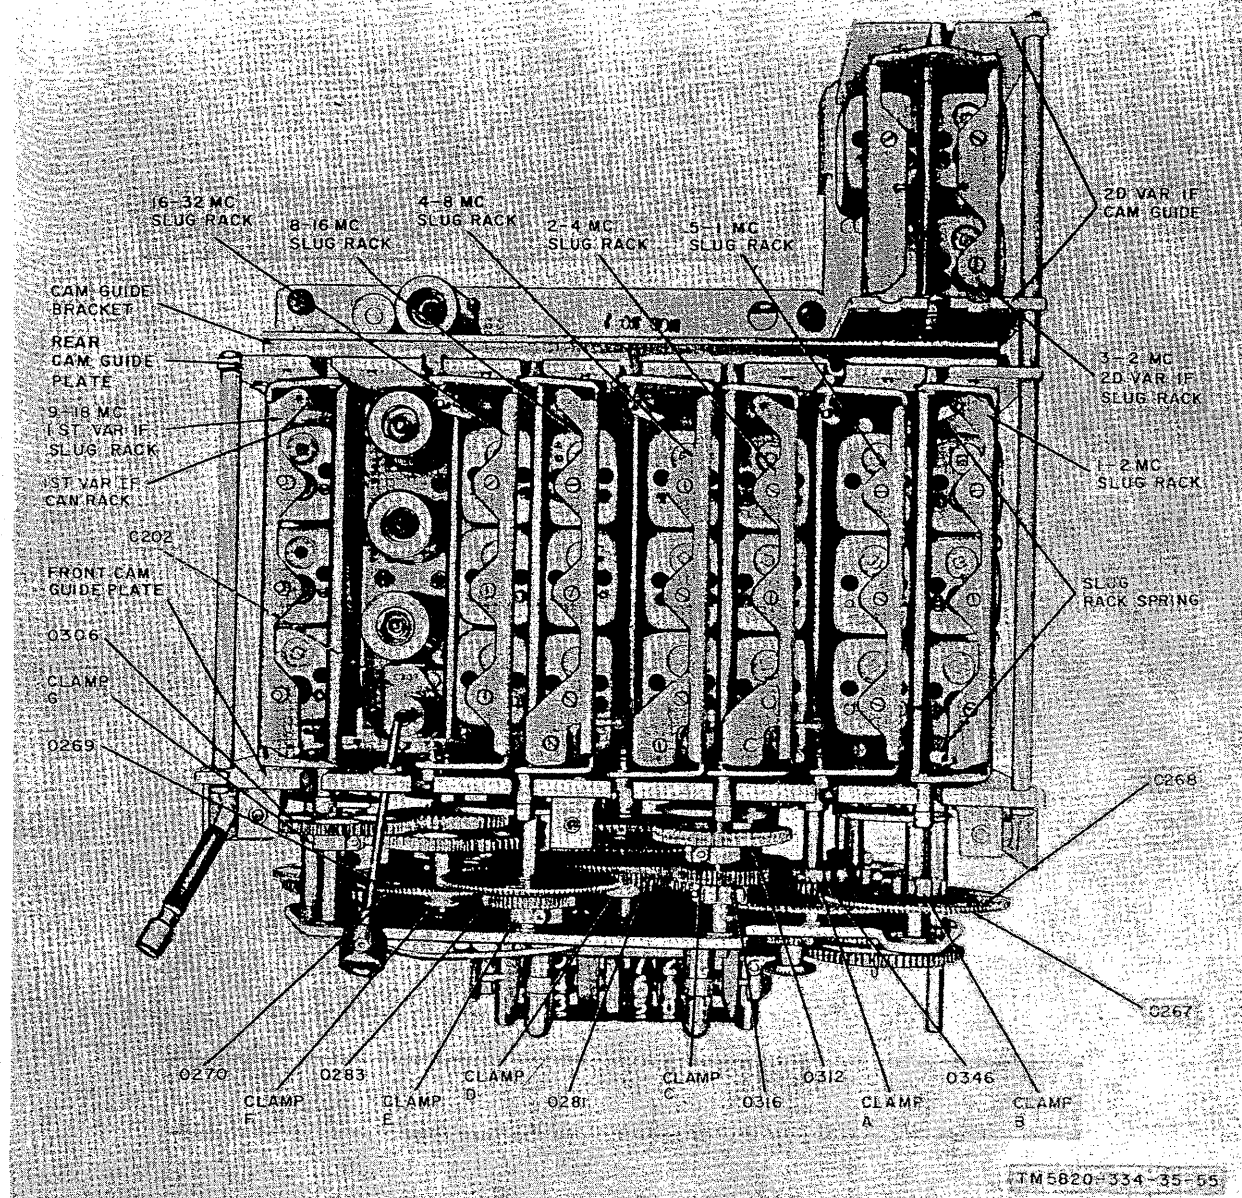
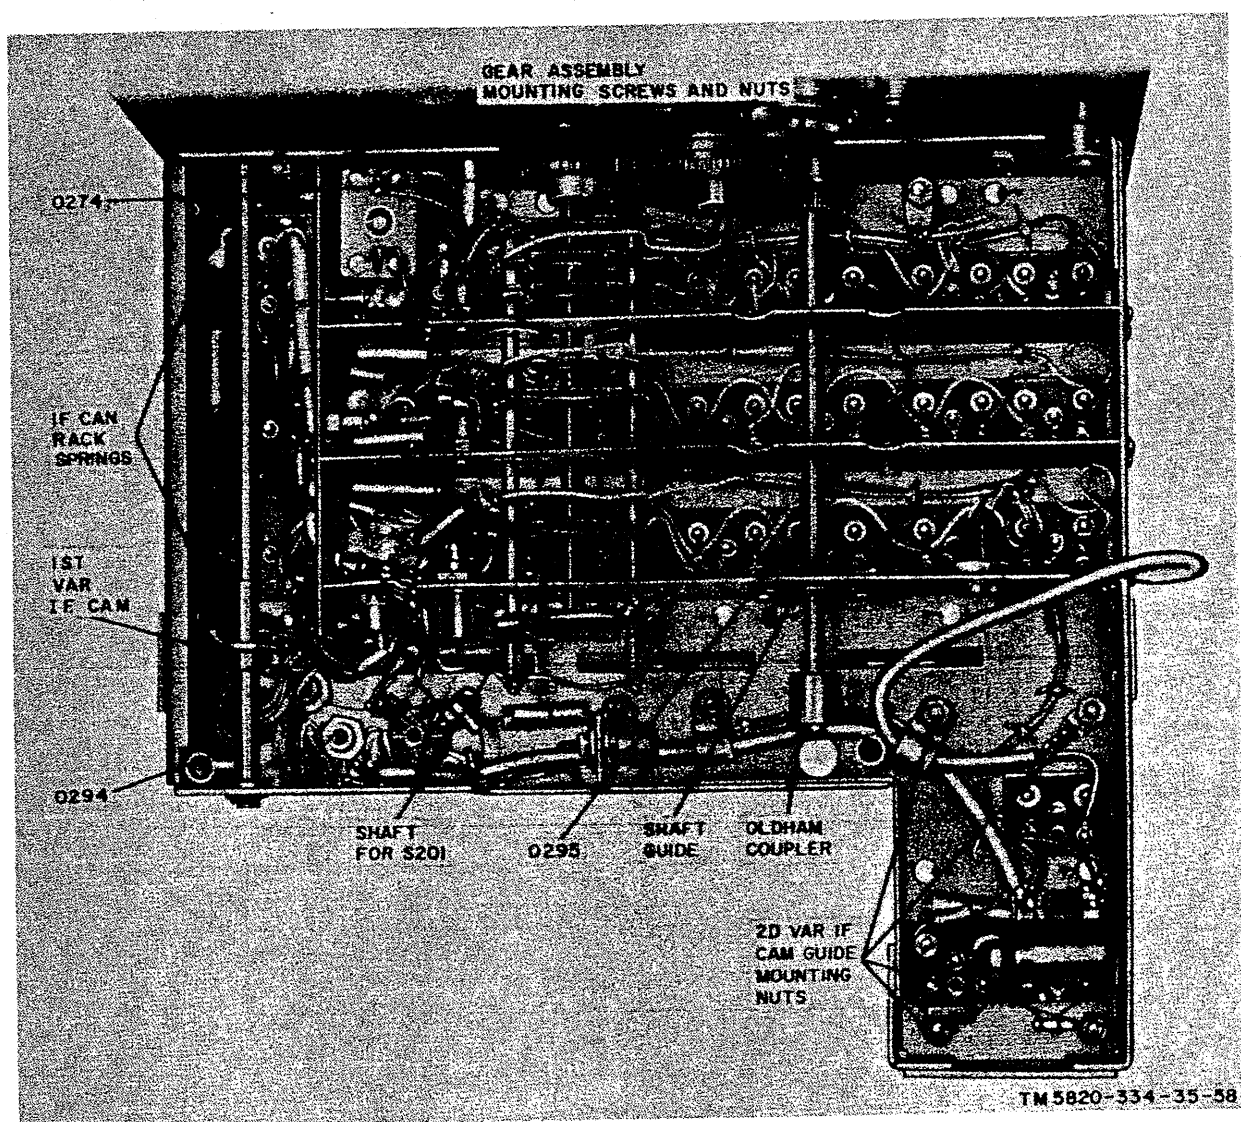

Figure 59. Gear train assembly and rf subchassis, top view.
Figure 60. Rf subchassis, bottom view.
(8) Remove the tubes from the subchassis.
(9) Loosen the clamp screw for gear 0274 (fig. 60).
(10) Slip the shaft for S201 out of the gear clamp. This can be done with long-nosed pliers (fig. 60).
(14) Loosen the Oldham coupler on shaft 0295 and remove it from the shaft (fig. 60).
(15) Remove the shaft guide from shaft 0295 (fig. 60).
(16) Remove the four second variable if. cam guide nuts (fig. 60).
(18) Remove the two gear assembly mounting screws and nuts (fig. 60).
(19) Remove the retaining ring at the rear of shaft 0294 (fig. 60) and slip the shaft out of the rear bearing.
(20) Carefully move the rf subchassis down and away from the gear train assembly as follows:
(b) Slip shaft 0295 through the holes in the shield plates in the bottom of the rf chassis (fig. 60).
(c) Work the cam on shaft 0294 through the oval hole in the front of the rf subchassis (fig. 60).
(a) Work the cam on shaft 0294 through the oval hole in the front of the rf chassis (fig. 60).
(b) Slip shaft 0295 through the holes in the shield plates in the rf subchassis (fig. 60).
(d) Slip shaft 0294 into the bearing at the rear of the chassis (fig. 60).
(2) Replace and tighten the two screws and nuts which secure the rf subchassis to the gear train assembly (fig. 60).
(4) Replace the retaining ring at the rear bearing of shaft 0294 (fig. 60).
(5) Replace and tighten the four second variable if. cam guide mounting nuts (fig. 60).
(6) Slip the shaft guide on shaft 0295. Start the screws, center the shaft guide, and tighten the two screws (fig. 60).
(7) Slip the Oldham coupler on shaft 0295 and tighten the setscrews (fig. 60).
(8) Slip the shaft for S201 into the clamp for gear 0274 and tighten the clamp screw (fig. 60). Do not over-tighten.
- (14) Replace all slug rack springs (fig. 59).
- (15) Replace the first variable if. can rack springs (fig. 60).
- (17) Replace the cam guide bracket on the rear cam guide plate (fig. 59).
- (18) Replace the crystal oscillator subchassis (para 65).
- (a) If shaft 0295 is out of line with the crystal oscillator shaft, loosen the two screws in the shaft guide for shaft 0295 (fig. 60), align the shafts, and tighten the screws in the shaft guide.